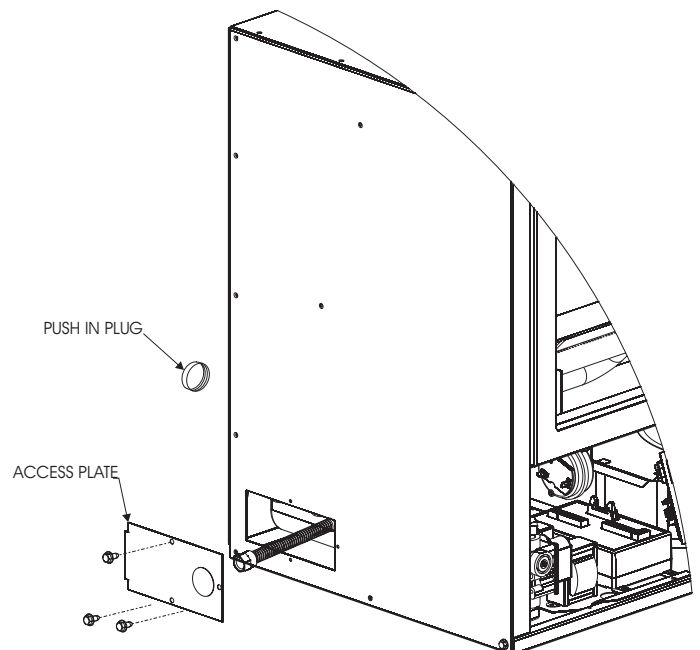

Figure 47
1. Remove access plate on the left side by removing three screws as shown in Figure 47.